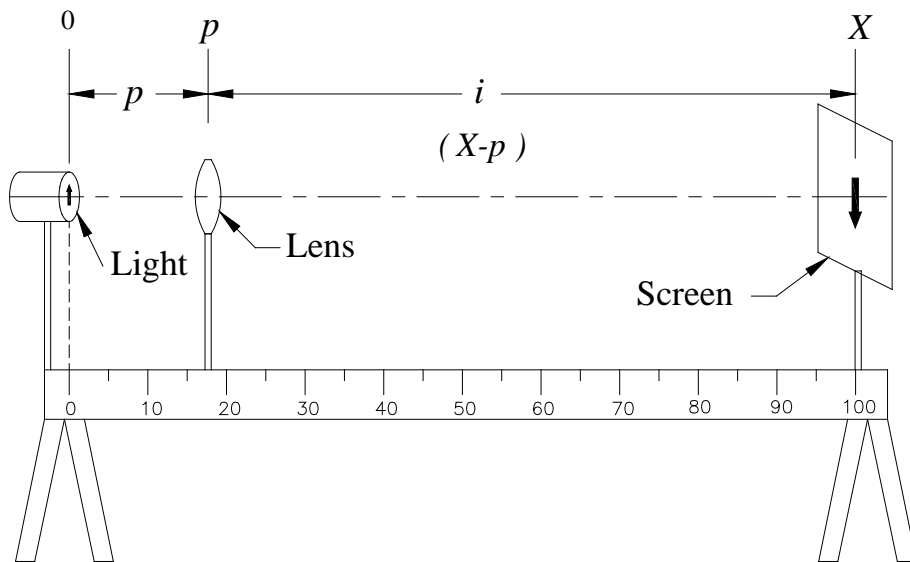

Figure 3 Diagram showing how components should be set up on the optical bench.
3) Return to the laboratory with your equipment. In this part of the experiment you will measure different object and image distances for the converging lens and then calculate the focal length to verify the lens equation. Mount the light source on the optical bench with the object arrow at the zero mark on the bench. See Figure 3. Place the screen at the 100.0 cm mark on the bench and place the medium thick converging lens (#2) at about the 5 cm mark. Adjust the height of the center of the light source, the lens, and the card so that they are all in a straight level line. See Figure 3. This is necessary so that the image formed by the lens stays centered on the screen. **Make sure the screen and lamp are perpendicular to the optical axis of the lens and that the axis of the lens is parallel to the optical bench.** This will minimize aberrations in the image and make it easier to focus. Move the lens away from the light source until an image is formed on the screen. Carefully adjust the position of the lens until the image formed on the screen is the sharpest.
Record the positions X and p in your table. (Figure 3 is drawn to correspond to the data in the above table.) Move the screen about 5cm from its present position toward the light and adjust the lens position until the image is sharpest. Record the new values of X and p in your table. (You need not record i or f in your table; as they will be calculated by Excel.) Also estimate the